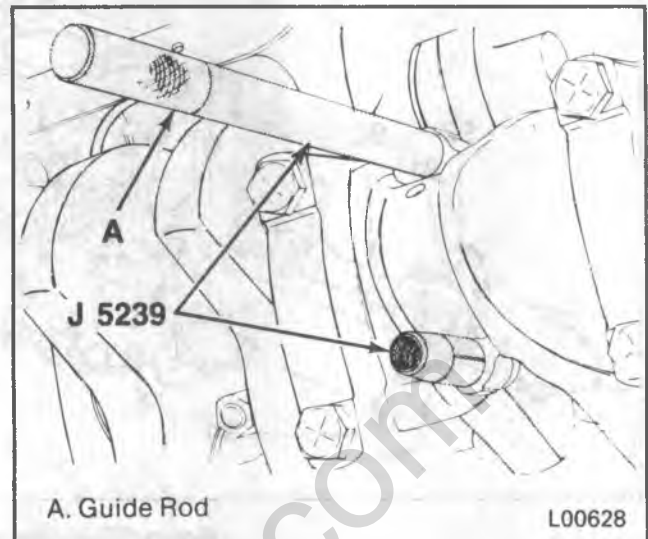
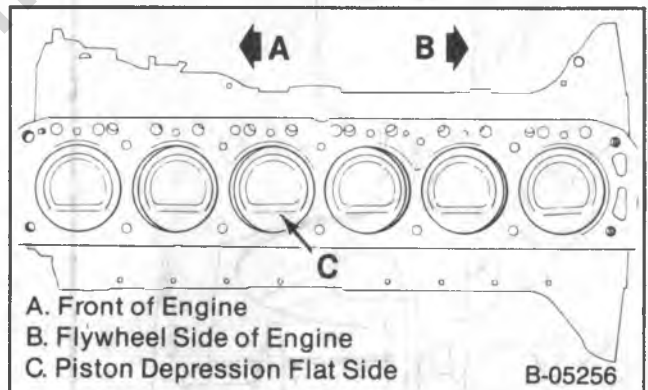

Figure 30 — Replacing the Connecting Rod and Piston
Figure 33 — Pistons Installed
↔ **Remove or Disconnect (Figure 30)**
- Attach J 5239 to the connecting rod bolts (figure 30).
↔ **Install or Connect (Figures 30 through 34)**
- With the connecting rod cap removed, install J 5239 onto the connecting rod studs (figure 30).
- The piston must be installed so that the piston crown depression's flat side faces to the engine's left side (figure 33).
- Place the piston in the cylinder it was removed from. Using light blows with a hammer handle, tap the piston down into the cylinder (figure 33). At the same time, from beneath the vehicle, guide the connecting rod to the crankpin with J 5239 (figure 30). Hold the ring compressor against the block until all rings have entered the cylinder.